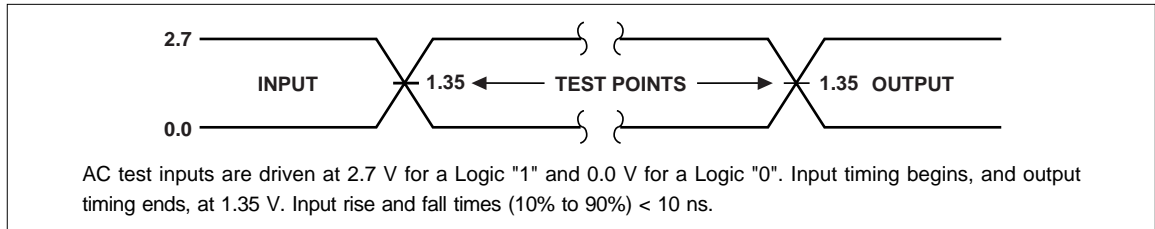

Fig. 7 Transient Input/Output Reference Waveform for VCC = 2.7 to 3.6 V
1. See AC Input/Output Reference Waveform (Fig. 7 through Fig. 9) for maximum allowable input slew rate.